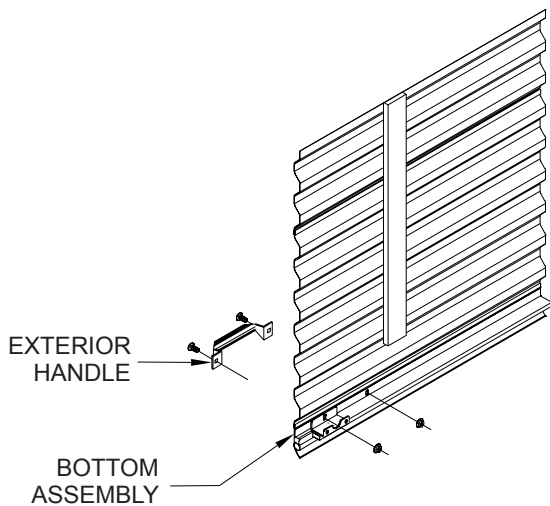

Figure 10
6.2 Attach one keeper to the bottom interior edge of each side of the door with one (1) 1/4" carriage bolt and whiz nut. (See Figure 7).) (See Figure 10).
8.2 Exterior handle: Attach the handle(s) to the bottom exterior edge of the door with two (2) 1/4" carriage bolts and whiz nuts provided (See Figure 10). Doors 8' wide and larger will have two handles.